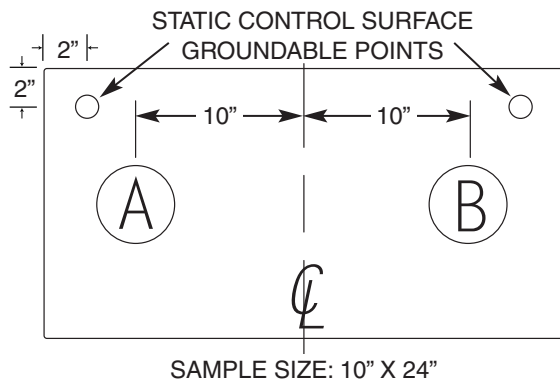

Figure 5-3: Material Evaluation Sample Configuration
- A. Prepare a minimum of six samples of each material to be tested as shown in Figure 5-3.